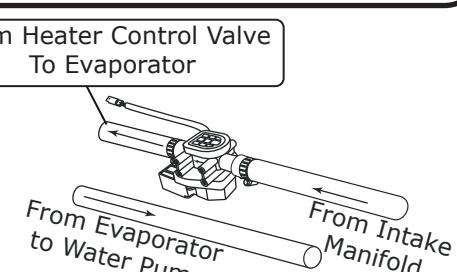

Figure 1
- Route a length of heater hose from the lower heater hardline to the "T" fitting from the water pump, and secure it using (2) hose clamps (See Photo 1, below).
- Cut a length of heater hose approximately 4" to 5" from the firewall cover, then install it onto the upper heater hardline. Install the heater control valve, and secure it with (2) hose clamps (See Photo 2, below). **NOTE: Ensure proper flow direction through the heater control valve. The flow direction follows the molded arrow on the valve (See Figure 1, below).** Install another length of heater hose from the heater control valve to the intake, then secure it with (2) hose clamps (See Photo 3, below).